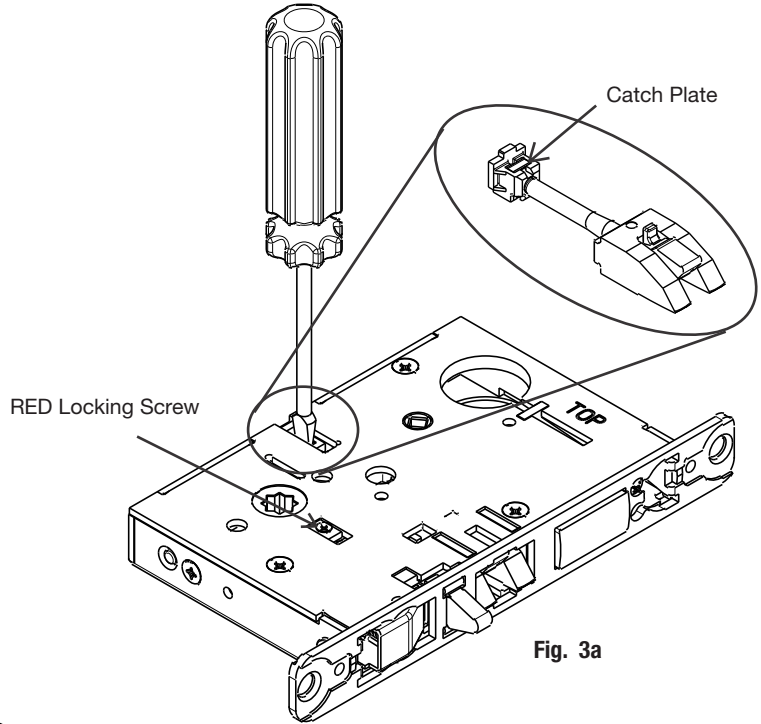

Fig. 3a
Step 1) Move the red locking screw to side of lock body being locked (Fig. 3a)
Step 2) Push in latch then depress catch plate with screw driver (Fig. 3a)